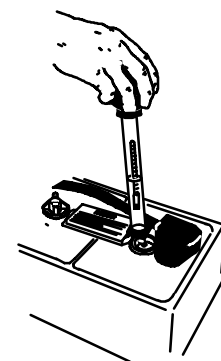

FIG. 29
1. Check the specific gravity using a hydrometer to determine the charge level and the condition of the batteries (Figure 29). If one or more of the battery cells read lower than the other battery cells (0.050 or more), the cell is damaged, shorted, or is about to fail. Check the hydrometer readings against the following chart to determine the remaining battery charge level.